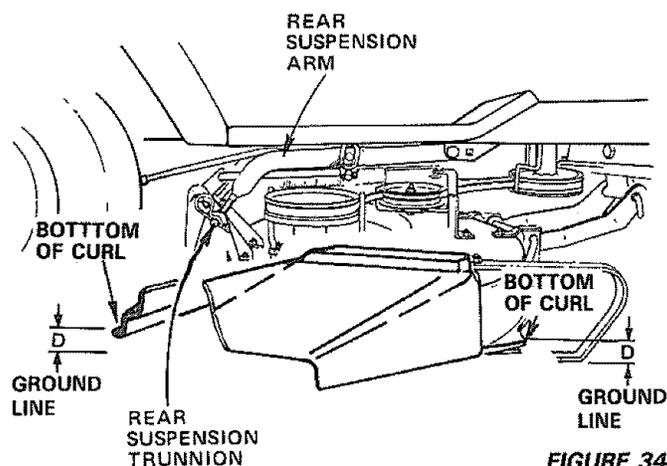

FIGURE 34
- To obtain the best cutting results, your mower housing should be adjusted so the front and rear flange distance "D" (Fig. 34) is 1/2" lower in front when the mower is positioned in the highest cutting position. NOTE: MEASURE DISTANCE "D" FROM GROUND LEVEL TO BOTTOM OF CURL ON RIGHT REAR FLANGE AND COMPARE TO DISTANCE "D" AT, BOTTOM OF CURL ON RIGHT FRONT FLANGE.